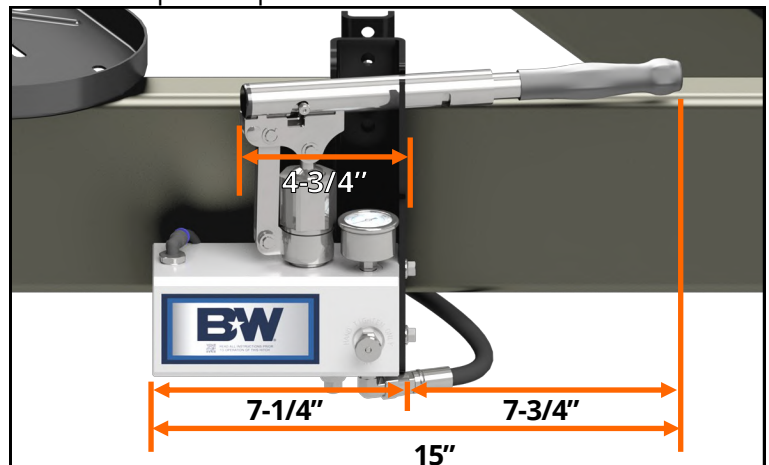

FIGURE A3: View of driver side frame rail.
- A clear span of frame rail is needed on the driver side of the trailer to mount the hydraulic pump, **see Figure A3.**
3. **Position the pump mount bracket.** Using **Figure A3 on page 3**, locate a clear span of the driver side frame to secure the hydraulic pump. If the trailer had a propane tank cover, the installation area should be roughly 4" behind the mark made on the frame, **as shown in Figure C5**. Relocate any obstacles or cables that may be in the area needed for pump installation. When the best location for the hydraulic pump unit has been determined, adjust the pump mount bracket so it is level with the frame. Tighten the two 3/8" nuts holding the pump mount inside clamp by alternating between each nut so that when tight, the inside clamp and pump mount bracket are flat against the frame rails, **see Figures C6 and C7**. Torque the 3/8" nuts to 40 ft.-lbs.